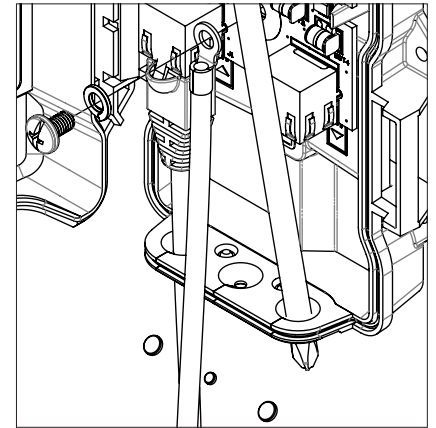

Figure 4 - Cable installation
1. Secure ground lug with M5 (#10) screw (provided as installed with unit). Torque to 1 Nm (8.8 in-lbf) $\pm 10\%$ (see Figure 4).